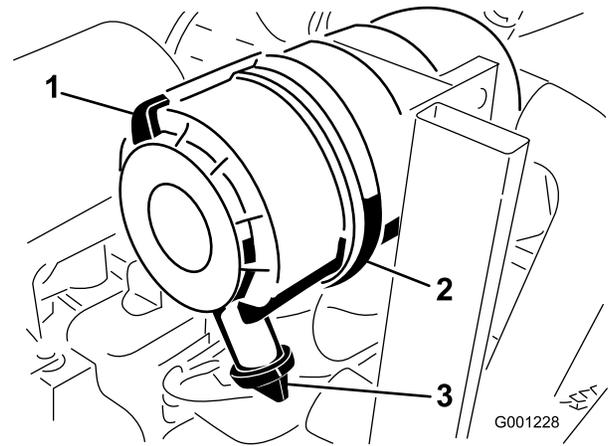

Figure 47
1. Pull the latch outward and rotate the air cleaner cover counter-clockwise (Figure 47).
2. Remove the cover from the air cleaner body (Figure 47).
8. Install the cover orienting the rubber outlet valve in a downward position—between approximately 5:00 to 7:00 when viewed from the end (Figure 47).